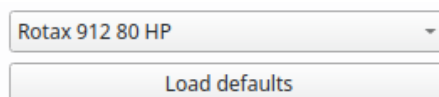

Figure 7: Engine type selection
- selected engine type (see Figure 7).